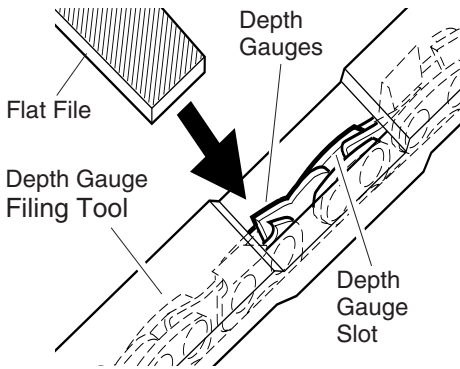

Figure 21 - Depth Gauge Filing Tool On Chain
1. Place depth gauge filing tool firmly across top of two cutters. Make sure depth gauges enters slot in depth gauge filing tool (see Figure 21).